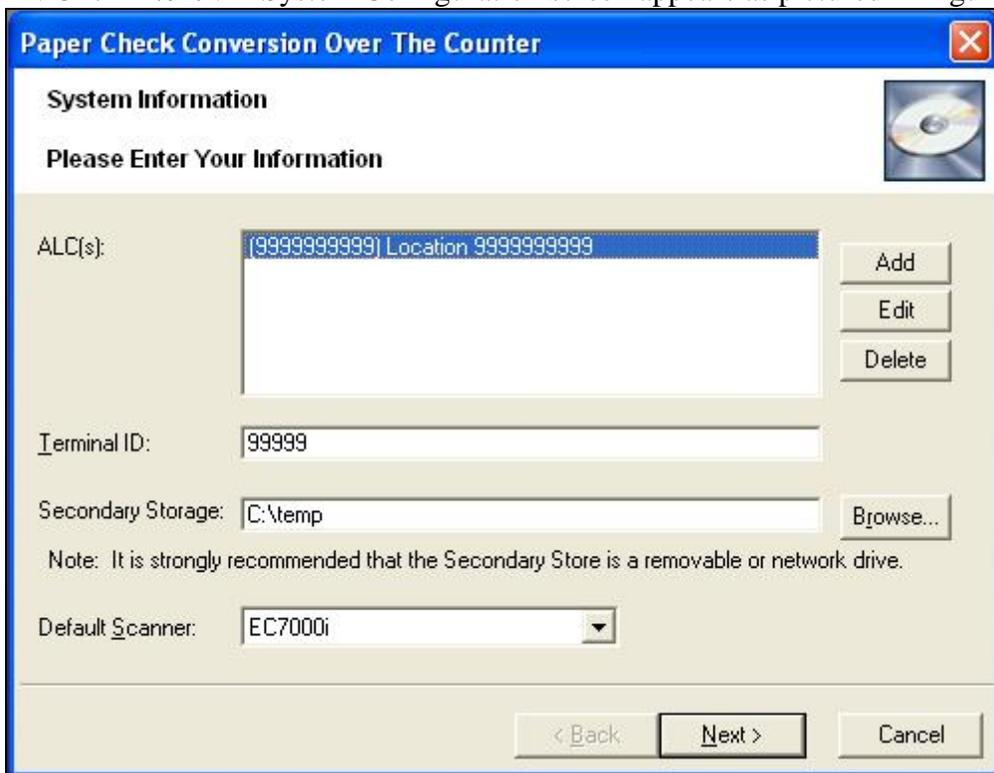

Figure 2.13
14. Click **'Next'**. A System Configuration screen appears as pictured in Figure 2.13.